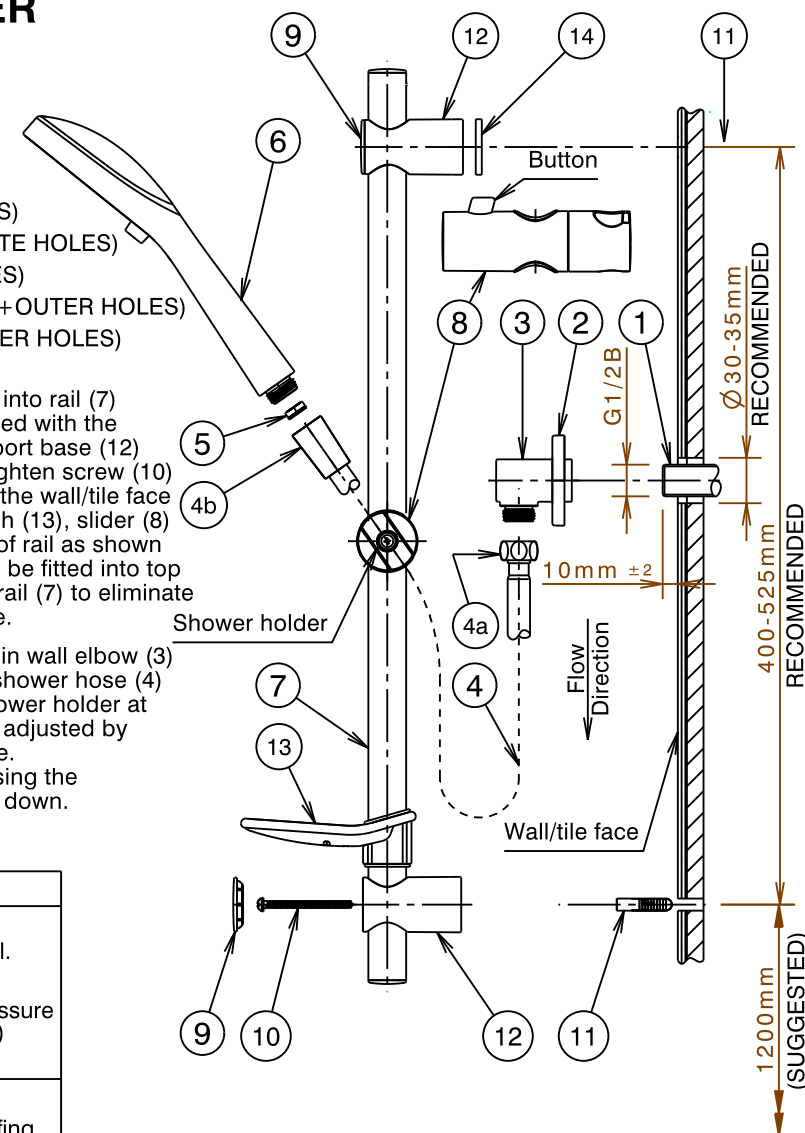

Fig.1
- 5) Remove cap (9) from one support base (12), slide it into rail (7) ensuring the screw hole inside support base is aligned with the hole at rail (7). Pass screw (10) through hole in support base (12) before inserting screw (10) into wall plug (11) and tighten screw (10) until support base (12) is mounted securely against the wall/tile face and fit cap (9) into support base (12). Slide soap dish (13), slider (8) and another support base (12) into rail (7) from top of rail as shown in Fig. 1. **Note:** if required, a rubber spacer (14) can be fitted into top support base (12) prior to sliding support base into rail (7) to eliminate the gap between support base (12) and wall/tile face.
- 6) Screw round connector (4a) of hose (4) onto thread in wall elbow (3) and tighten. Screw the longer conical fitting (4b) of shower hose (4) onto handset (6) and tighten. Fit handset (6) into shower holder at slider (8). The inclination of the handset can also be adjusted by twisting the shower holder clockwise or anti-clockwise.